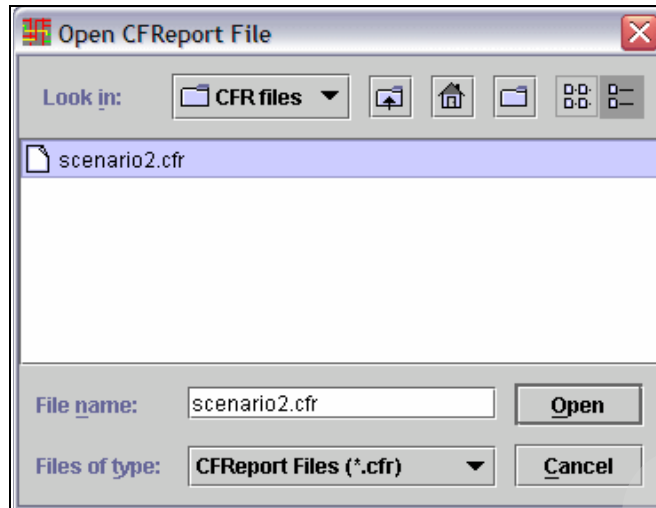

Figure 4-51 CMT - Open CFReport Order file
4. Select the CFReport file on your workstation to import into the CHPID Mapping Tool and click **Open** (Figure 4-51).